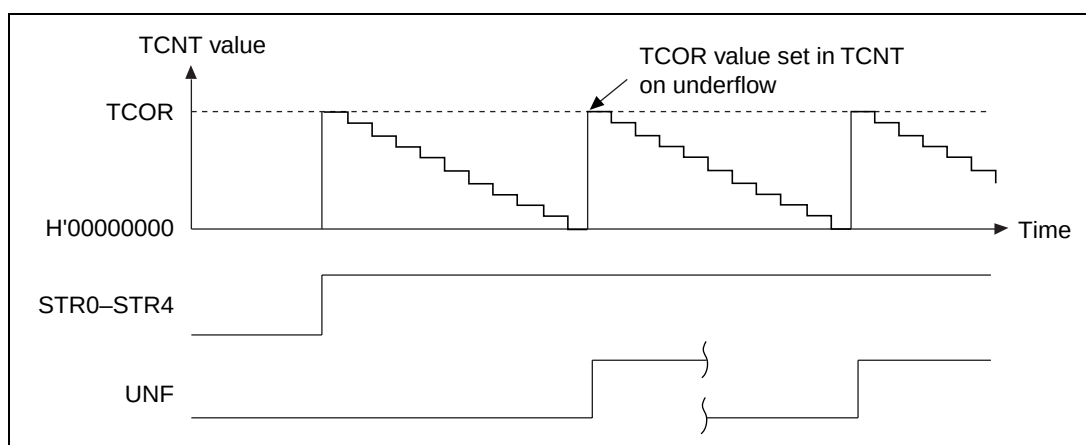

**Figure 12.3 TCNT Auto-Reload Operation**
**Auto-Reload Count Operation:** Figure 12.3 shows the TCNT auto-reload operation.